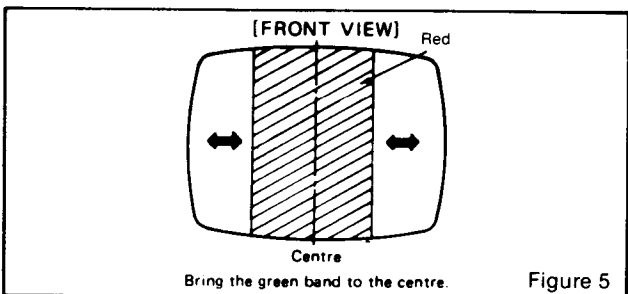

Figure 5
1.7 Spread the tabs apart as little as necessary and rotate both rings together to center the red band horizontally on the face of the CRT (approximate). (See Fig. 5)